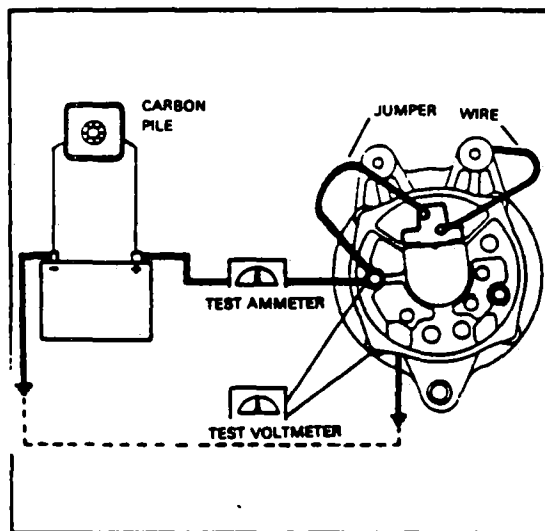

Figure 11-32. Testing Alternator
a. Wiring connections for bench testing the alternator are shown in Figure 11-32. Refer to the individual specification pages for output test figures. Adjust the carbon pile, if necessary, to obtain the specified voltage.